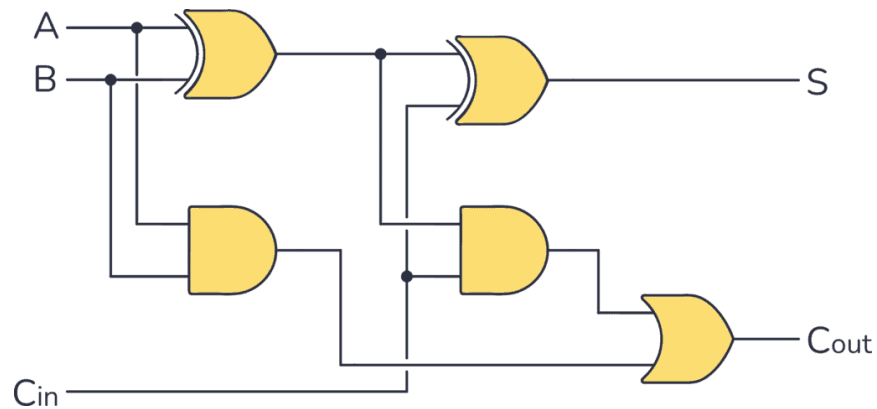

Figure 1: Logic diagram of a full adder $S = A + B + C_{in}$, C_{out} is a carry bit
2. Implement the full adder using logic gates or symbol blocks, as shown in Figure 1.